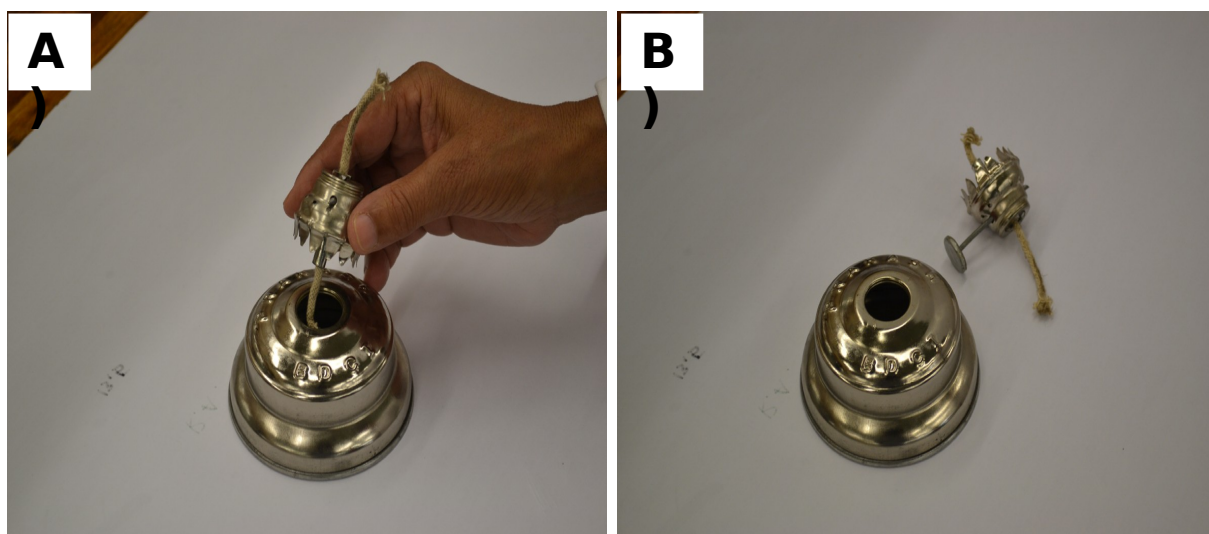

Figure 1
4. Using a firm grip, turn the top half of the oil lamp and separate it from the base chamber. See Figure 1.